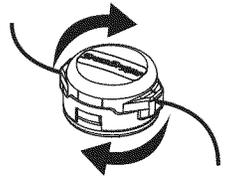

Fig. 18
3. Hold the cutting head knob and turn the cutting head clockwise to wind the line around the spool until 5 in. (12.7 cm) is protruding from each side of the cutting head (Fig. 18)